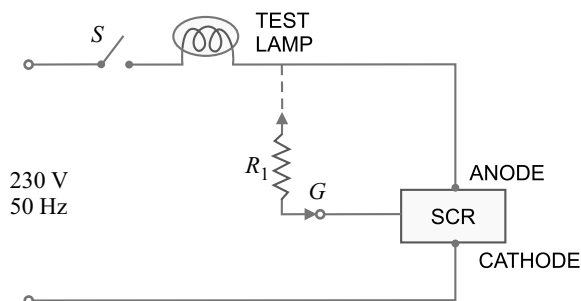

Fig. 18.32
**Solution.** Fig. 18.32 shows a simple circuit for testing an *SCR*. The test lamp serves two purposes. First, it is a visual indicator of current conduction. Secondly, it limits current through the *SCR*.